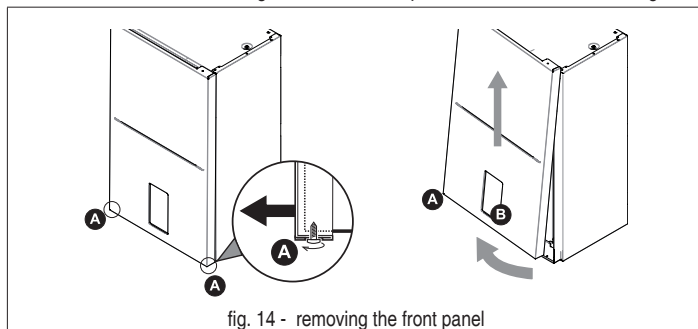

fig. 14 - removing the front panel
- Partially unscrew the screws A (see "fig. 14 - removing the front panel").
- Pull the panel B out and release it from the upper fixings (see "fig. 14 - removing the front panel").